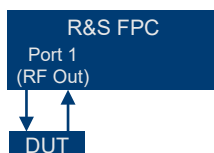

Figure 18-2: Setup of a reflection S11 measurement
1. Connect the DUT to the R&S FPC as shown in Figure 18-2.